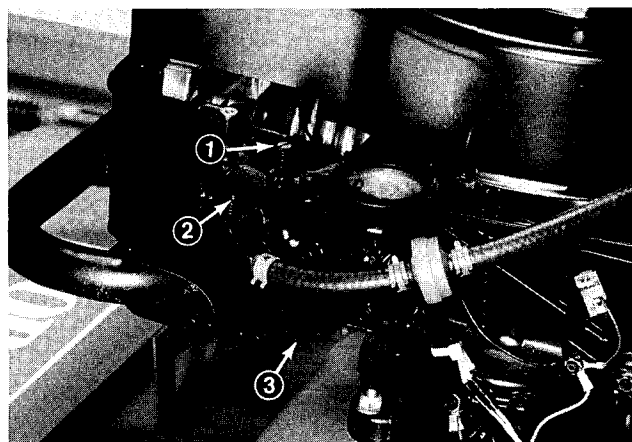

Figure 20
1. Needle Valve (Fig. 20) — Close valve by gently rotating it clockwise.
2. Rotate — open — the needle valve 2 turns counterclockwise (Fig. 20).
4. Rotate needle valve (Fig. 20) clockwise, 1/8 turn at a time, until engine starts to lose speed. Let engine react to each 1/8 turn setting.
5. Rotate needle valve (Fig. 20) counterclockwise — out — 1/8 turn at a time, until engine first runs rough. Let engine react to each 1/8 turn setting.
6. Rotate needle valve (Fig. 20) clockwise — in — very slowly until engine starts to run smoothly. This setting, under no load, may be slightly rich; however, the slightly rich setting will assure proper operation when engine is under load.